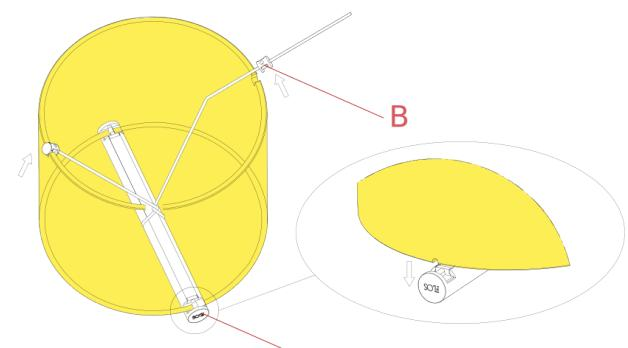

Fig.2
Remove the body (D) of the device from the wall attachment (A) by unhooking it from the hooks (E) present on the wall attachment. (Fig.2)